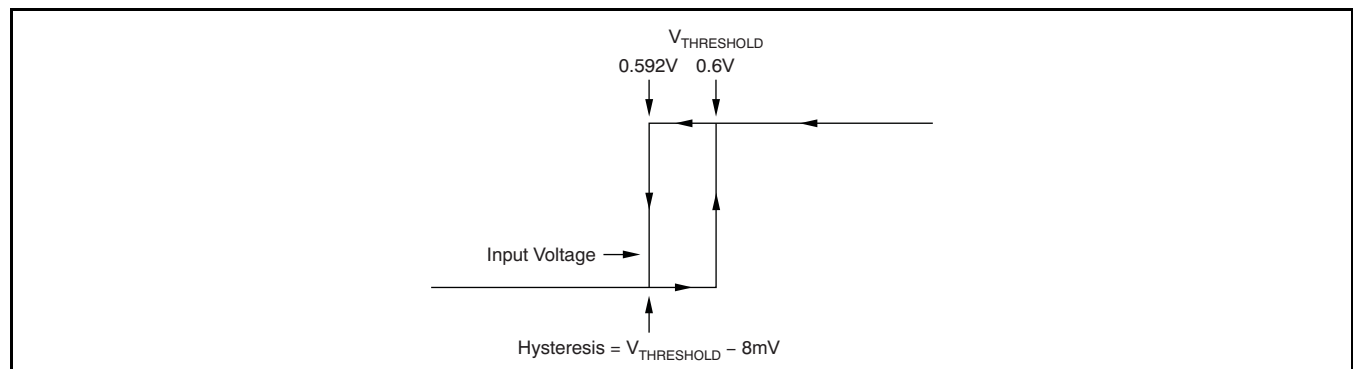

Figure 1. Typical Comparator Hysteresis
- (1) Hysteresis refers to the threshold (the threshold specification applies to a rising edge of a noninverting input) of a falling edge on the noninverting input of the comparator; refer to Figure 1.
- (2) Specified by design.
- (3) V_{ID} refers to the differential voltage at the comparator inputs.
- (4) Open-drain output can be pulled to the range of +2.7V to +18V, regardless of V_S .
- (5) The comparator response time specified is the interval between the input step function and the instant when the output crosses 1.4V.
- (6) The $\overline{\text{RESET}}$ input has an internal 2M Ω (typical) pull-down. Leaving $\overline{\text{RESET}}$ open results in a LOW state, with transparent comparator operation.